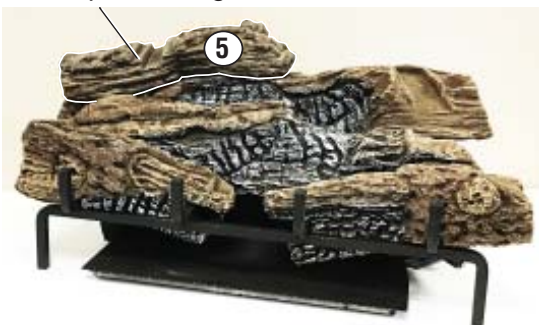

Figure 44 - Installing Log # 5
5. Place the left top back log (#5) on top of the rear log. Match the rectangular projection on top of the left side of the rear log with the rectangular hole on the bottom of the left top back log. Match the metal pin on the top of the rear log with the round hole in the bottom of the left top back log. See **Figure 44**.